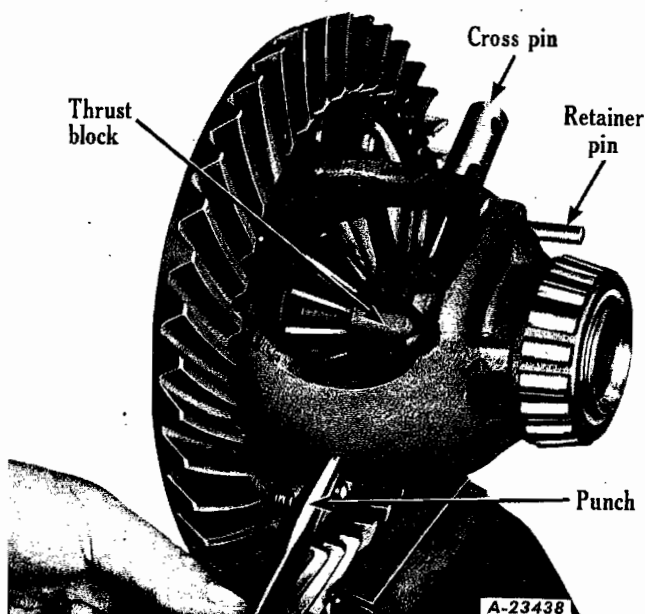

Fig. 24
2. Using punch, drive the cross pin out of differential case far enough to remove the thrust blocks (Fig. 24).